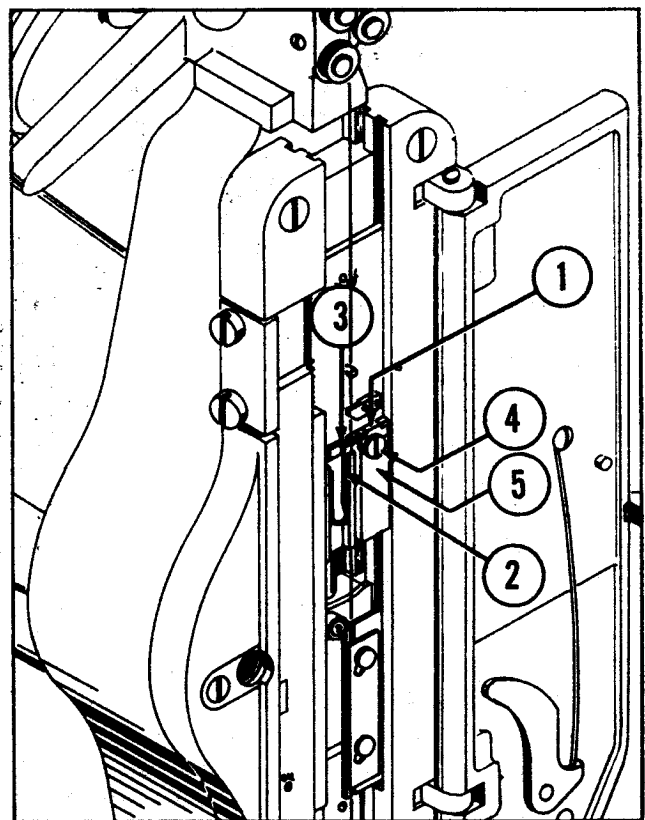

Figure 12—Removing Wire Grip
3. HOW TO REMOVE WIRE GRIP (See Fig. 12.)